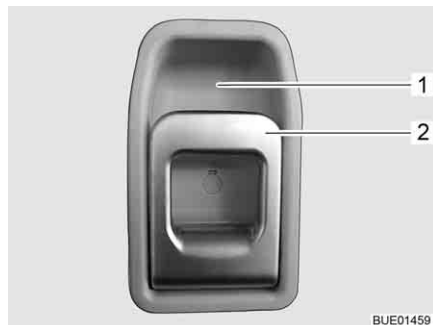

Fig. 47 Door lock of conversion door, inside
- Pull on the handle (Fig. 47,2). The door lock is unlatched.
- Press the upper part of the handle (Fig. 47,2) in the direction of the recessed handle (Fig. 47,1).